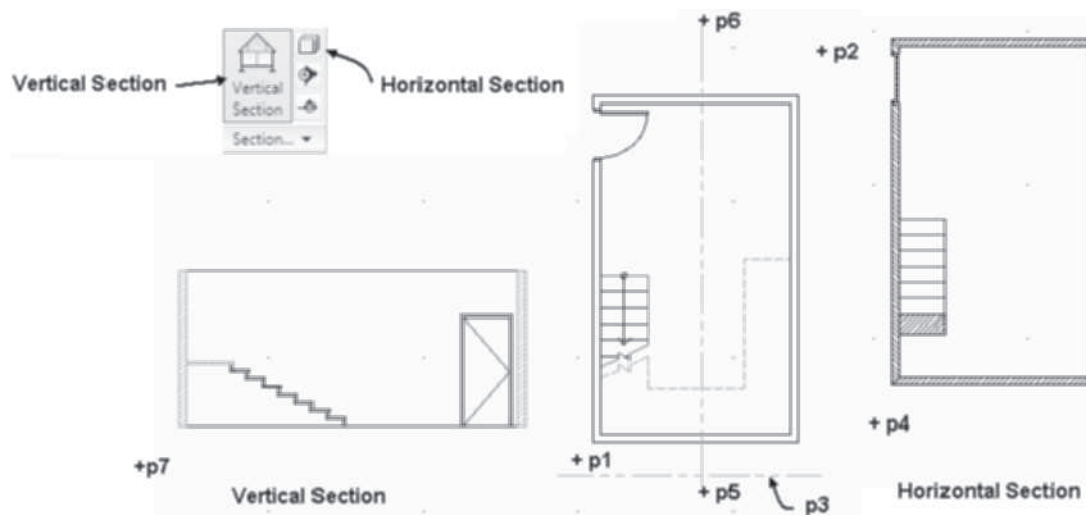

FIGURE 12.30 Horizontal and Vertical Sections
cutting plane height, and depth of the section. The result of the command creates a building section line. The section is created when you select the building section line, right-click, and choose **Generate Section** or **Enable Live Section** as shown in Figure 12.30.
Select corner for horizontal section: (Select the drawing area at **p1** as shown in Figure 12.30.)
Select corner for horizontal section: (Select the drawing area at **p2** as shown in Figure 12.30.)
2. Select the building section line at **p3** as shown in Figure 12.30 and choose **Generate Section** from the Modify panel of the Building Section Line tab.
4. Choose the **New Object** radio button, click the **Pick Point** button, and select a point near **p4** as shown in Figure 12.30. Click **OK** to dismiss the Generate Section Elevation dialog box.
Specify Start point: *(Select a point near p5 as shown in Figure 12.30.)*
Specify next point: *(Select a point near p6 as shown in Figure 12.30.)*
3. Click the **Select Objects** button in the **Selection Set** section and then create a crossing selection set by selecting a point near **p2** and **p1** as shown in Figure 12.30. Press ENTER to return to the Generate Section/Elevation dialog box.
4. Choose the **New Object** radio button, click the **Pick Point** button, and select a point near **p7**. Click **OK** and a vertical section is created as shown at the left in Figure 12.30.